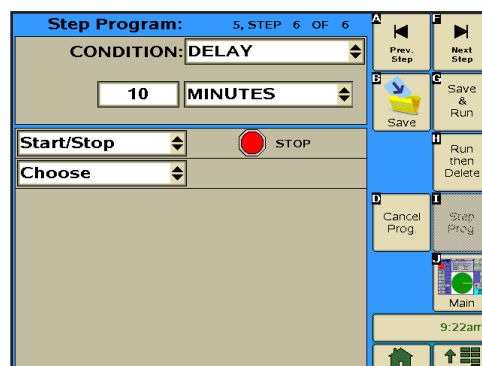

Figure 136-2
20. Program the delay time condition for this step. Refer to Figure 136-2.